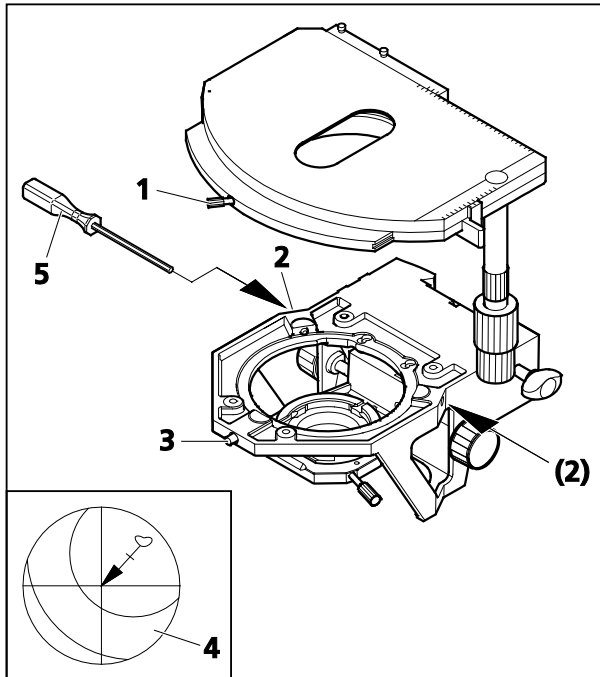

Fig. 64 Centering the rotatable mechanical stage
All stages are factory-precentered, i.e. a set specimen detail remains in the image center when the stage is rotated. If the image detail moves from the image center (Fig. 64/4), recenter the stage as follows:
- Loosen stage clamping screw (Fig. 64/1) and the screw cap on the stage carrier (Fig. 64/3).
- Rotate the stage to determine the maximum specimen deflection (Fig. 64/4, tip of arrow) to the eyepiece reticles.
- Reset the two centering screws on the stage carrier (Fig. 64/2) using one SW 1.5 Allen screwdriver (Fig. 64/5) each to move the specimen detail by half the arrow length in the direction of the crossline center. Check whether the specimen detail moves when the stage is rotated again; repeat the procedure, if required.
- When centering is finished, tighten screw cap (Fig. 64/3) again.